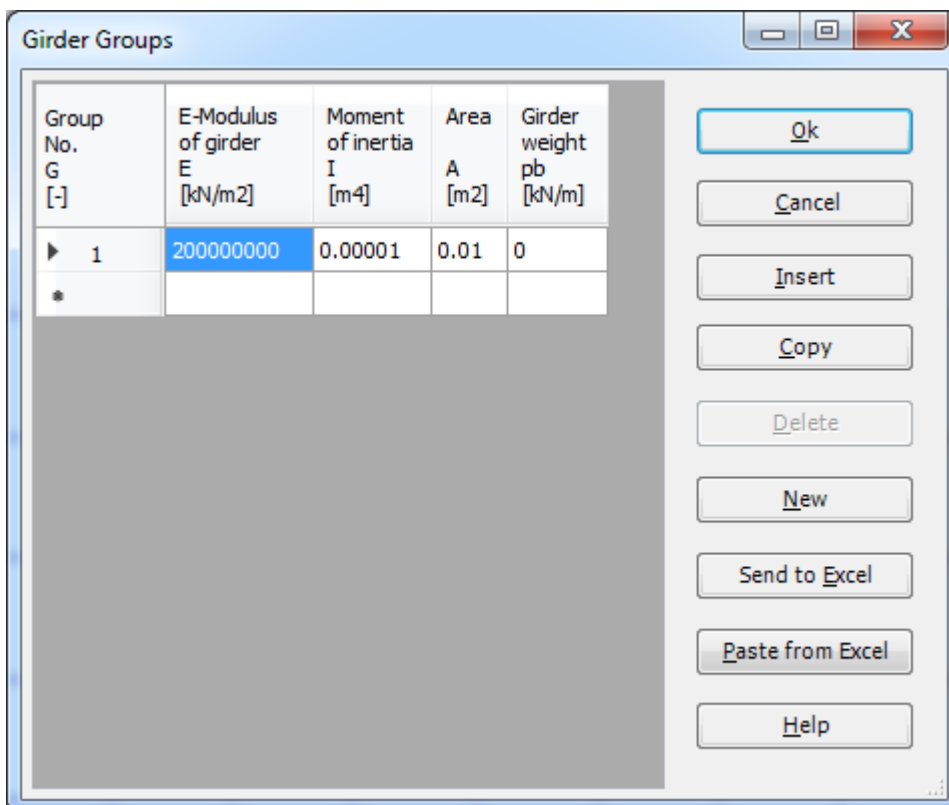

Figure 6.13 "Defining girder groups" list box
After clicking "OK" button in the "Cross section definition" option box, the following list box in Figure 6.13 appears.
- Enter the material properties of the girder, cross section dimensions and the girder weight as indicated in Figure 6.13. This is done by entering the value in the corresponding cell and press "Enter" button